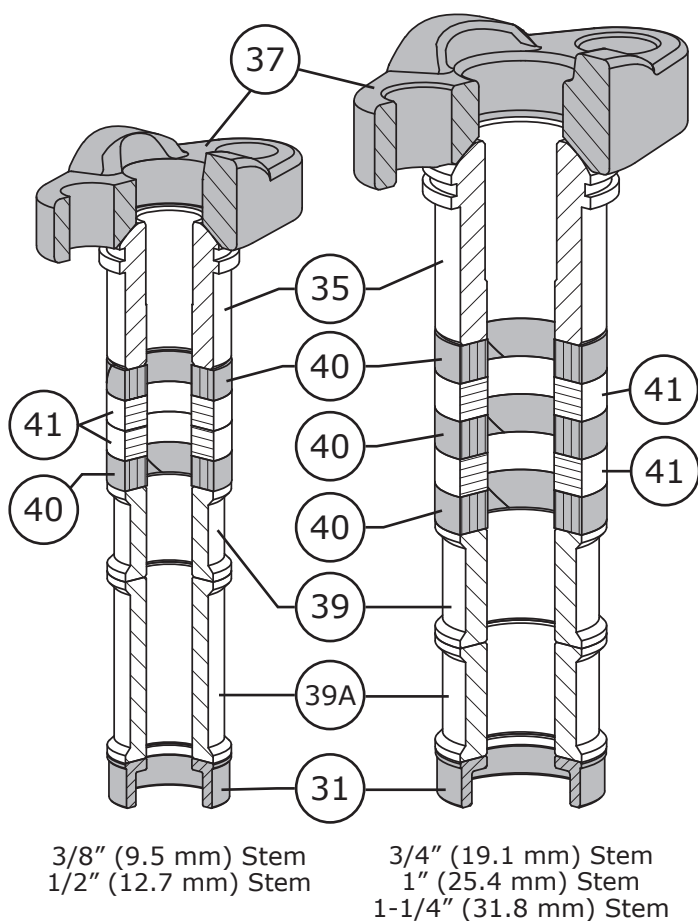

Figure 30 Graphite Packing Arrangement Diagram
- 6 Install the remainder of the graphite filament (Key 40) and graphite ribbon (Key 41) one at a time (as shown in Figure 26) in the proper order and orientation as shown in Figure 30.